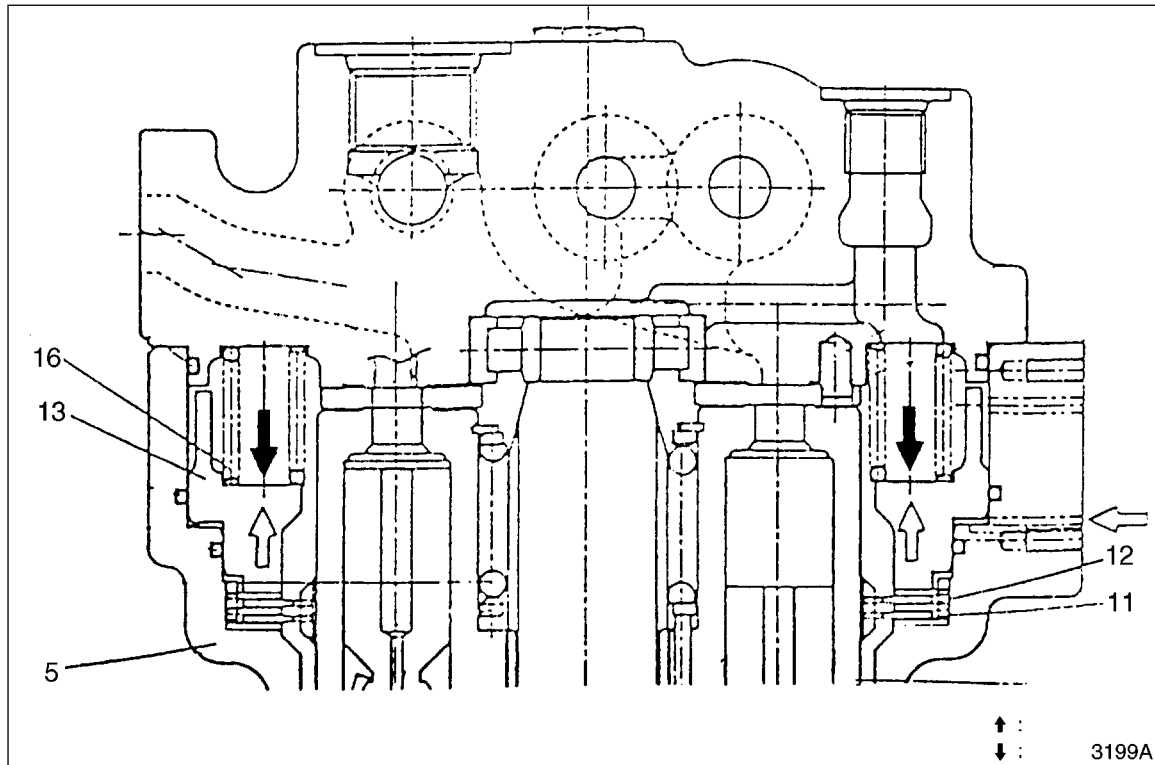

Figure 4
The swing brake is applied when the brake spring (16, Figure 4) locks up the friction plate (11), split plate (12) and swing motor casing (5), preventing the motor drive shaft from turning. When hydraulic pressure is forced to the back side of the brake piston, the friction plate and swing motor casing are separated, releasing the brake.